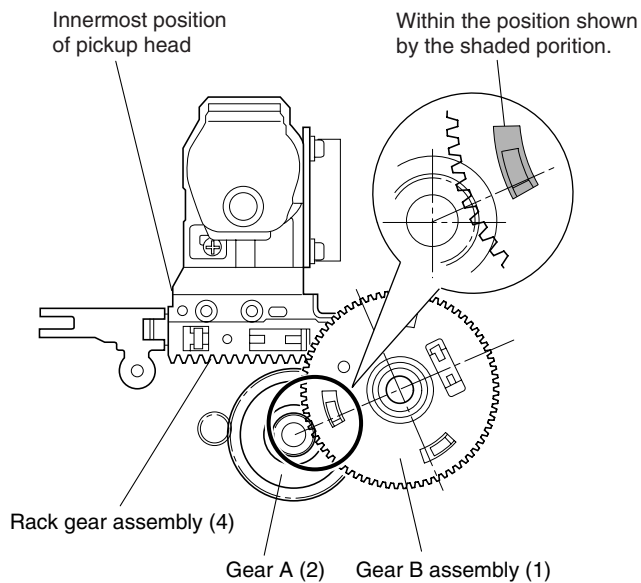

Fig. 2-1-21
3. Fit the positioning holes on the upper gear and lower gear of the gear B assembly (1) and mount on the pickup mechanism assembly with the phase matched. At this time, note that the phase of the gear B assembly (1) and the gear A (2) shows the status in the Fig. 2-1-21.